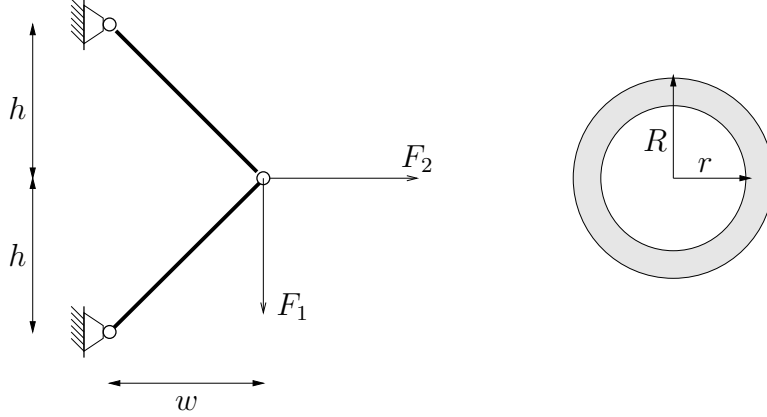

Figure 1 Two-bar truss and cross section of one of the two bars.
1. *A structural optimization problem.* Figure 1 shows a two-bar truss with height $2h$ and width w . The two bars are cylindrical tubes with inner radius r and outer radius R . We are interested in determining the values of r , R , w , and h that minimize the weight of the truss subject to a number of constraints. The structure should be strong enough